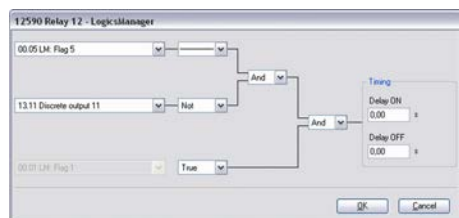

Fig. 195: LogicsManager function "Relay 12"
2. Configure the LogicsManager function "Relay 12" as shown in (Fig. 195).